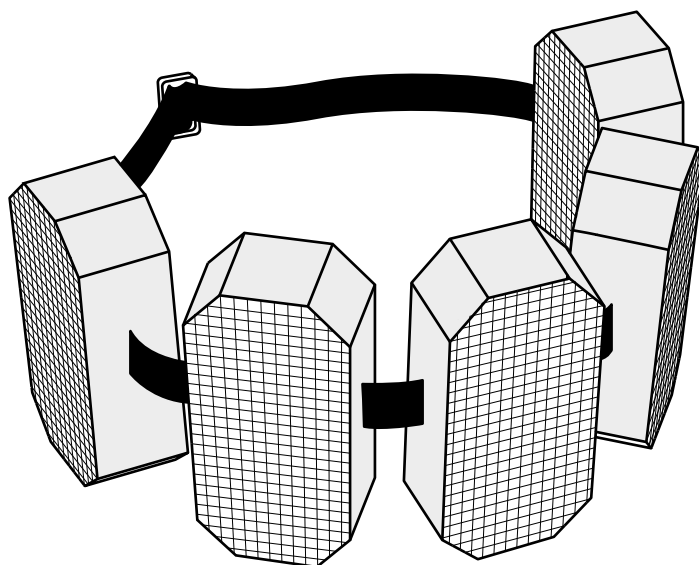

Figure 17
- 8 Figure 17 shows a swimming aid that has been manufactured from expanded polystyrene.